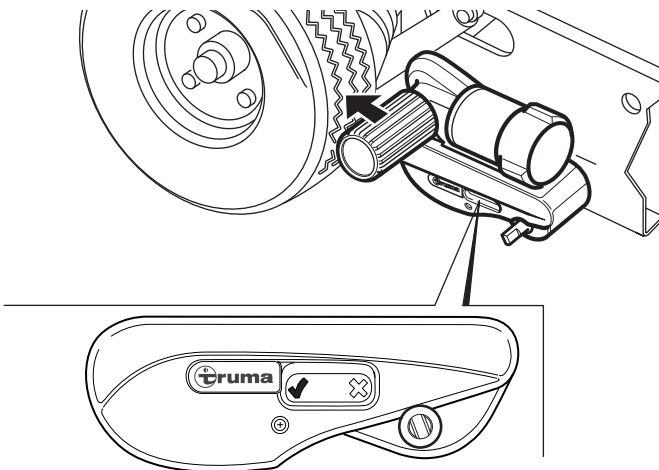

Fig. 15
- ▶ Turn the engagement lever towards the vehicle wheel. The engagement mechanism must engage so that the engagement lever no longer springs back (Fig. 14-2). As soon as the engagement mechanism has engaged, the position indicator on the manoeuvring system's position indicator points to  (Fig. 15).